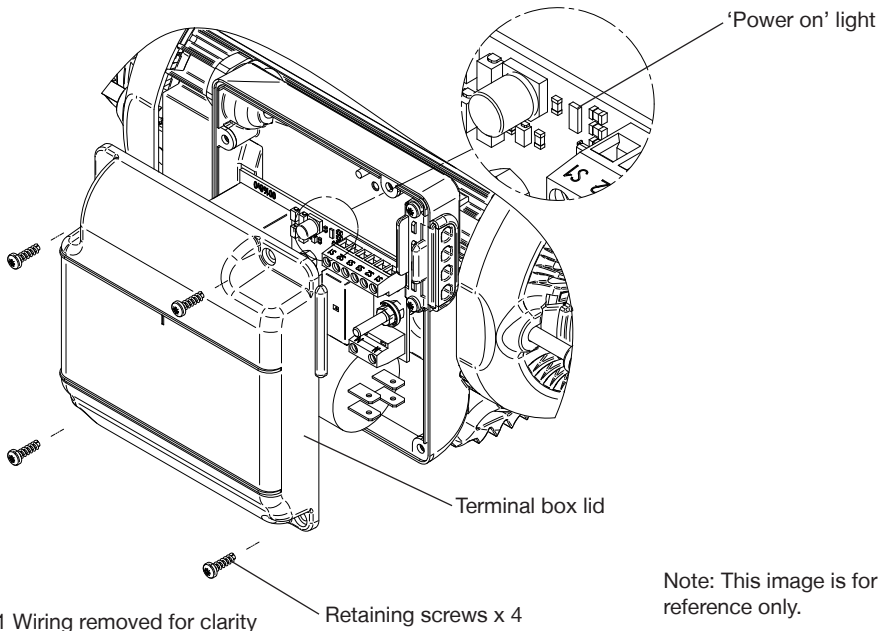

Fig. 11 Wiring removed for clarity
- Remove the four screws retaining the terminal box lid (Fig. 11).